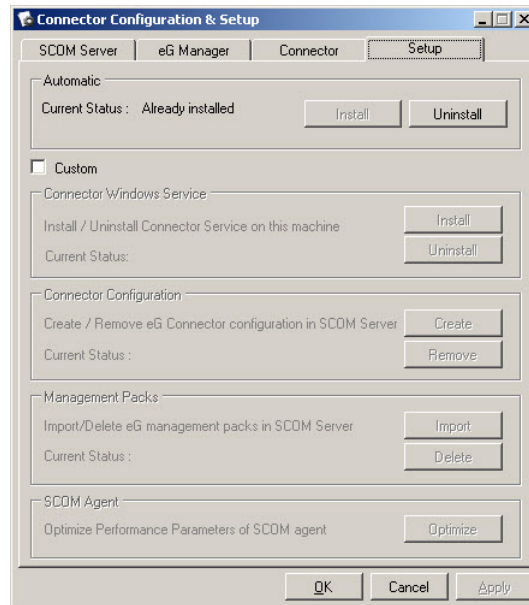

Figure 5.1: Clicking on the Setup tab page for uninstalling the connector configuration
- Switch to the **Setup** tab page of the **Connector Configuration & Setup** dialog box that then appears (see Figure 5.1). Click the **Uninstall** button therein to uninstall the configuration.